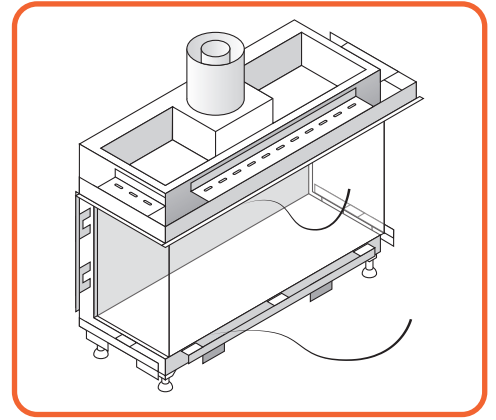

Figure 10.6 - Remove glass cords
- Remove the glass cords. (See *Figure 10.6*)